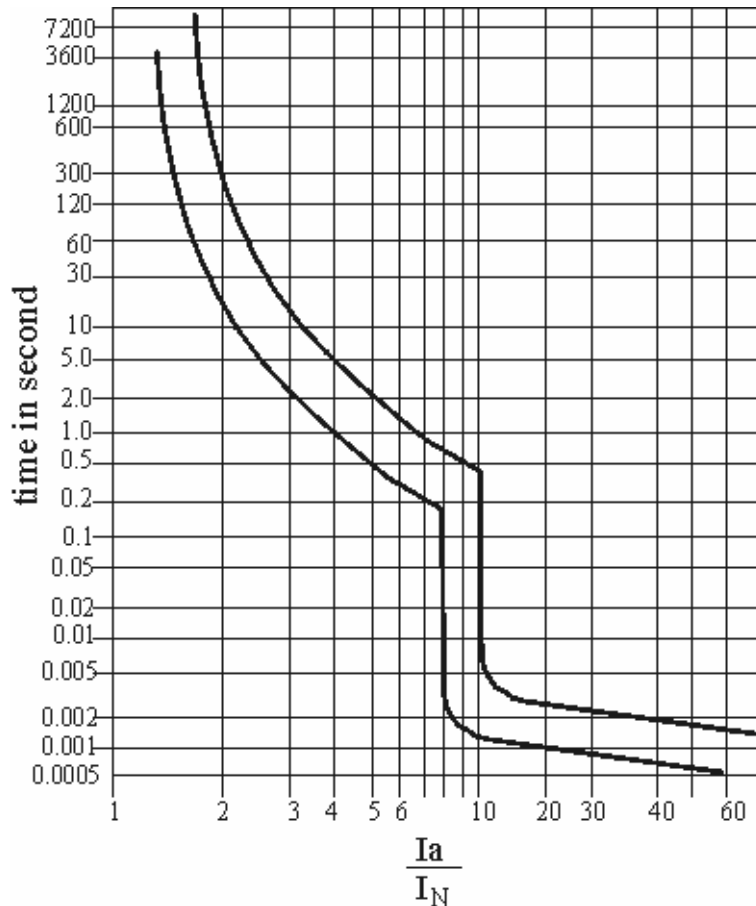

Figure 6
The equipment shown in Figure 6 is for a switchboard in a multiple-domestic installation. Arrangement of the circuits places them partially surrounded by bulk thermal insulation. Two (2) 16 A combination RCD/MCBs are required to protect two final sub-circuits supplying 10 A socket outlets from the switchboard. Show on the diagram the necessary Active, Neutral and Earth connections for these two final sub-circuits.
Determine the suitability of a 20 A type D circuit breaker having a tripping characteristic in the range shown in *Figure 6*. The circuit breaker is to protect a circuit supplying a motor that takes 4.5 seconds to run up to speed and has a maximum starting current of 132 A. Show all working and show on the diagram how you arrived at the answer.